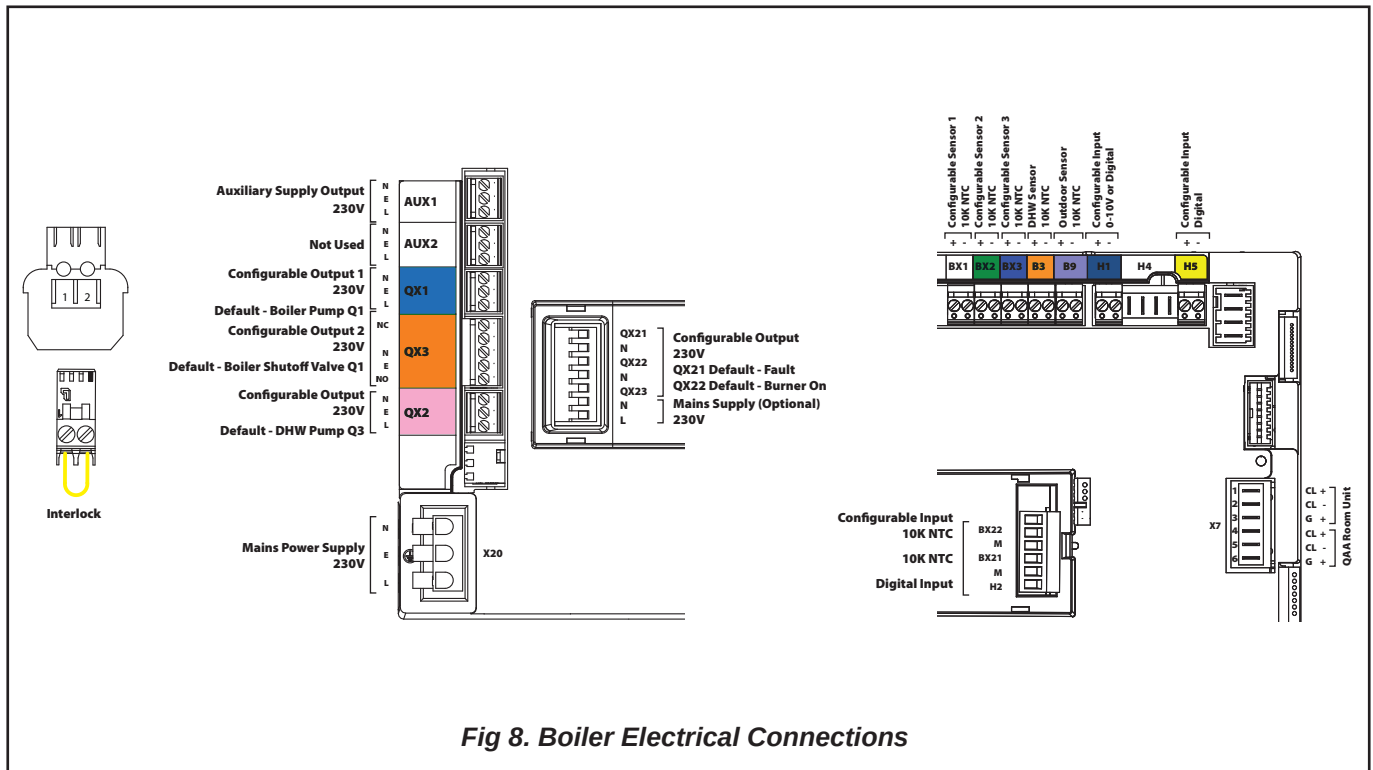

Fig 8. Boiler Electrical Connections
- Supply: Live, Neutral and Earth. See Fig 8 for details.